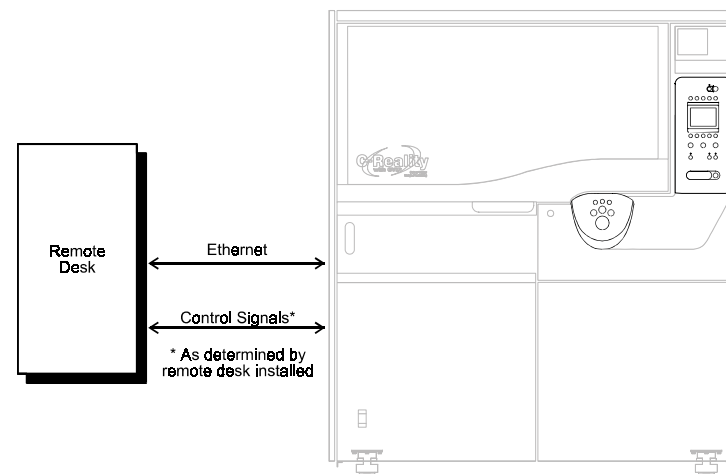

Figure 7 Control System Block Diagram
Control Block Diagram	Figure 7
- Top Level Menu Pre Gamma (Figure 7)